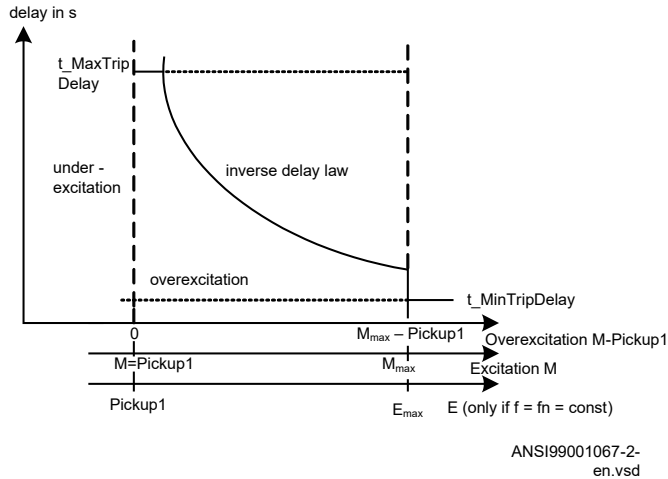

Figure 99: Restrictions imposed on inverse delays by
A definite maximum time of 1800 seconds is used to limit the operate time at low degrees of overexcitation of *Pickup1*. Inverse delays longer than 1800 seconds will not be allowed. In case the inverse delay is longer than 1800 seconds, OEXPVPH (24) trips *t_MaxTripDelay*, see figure 99.